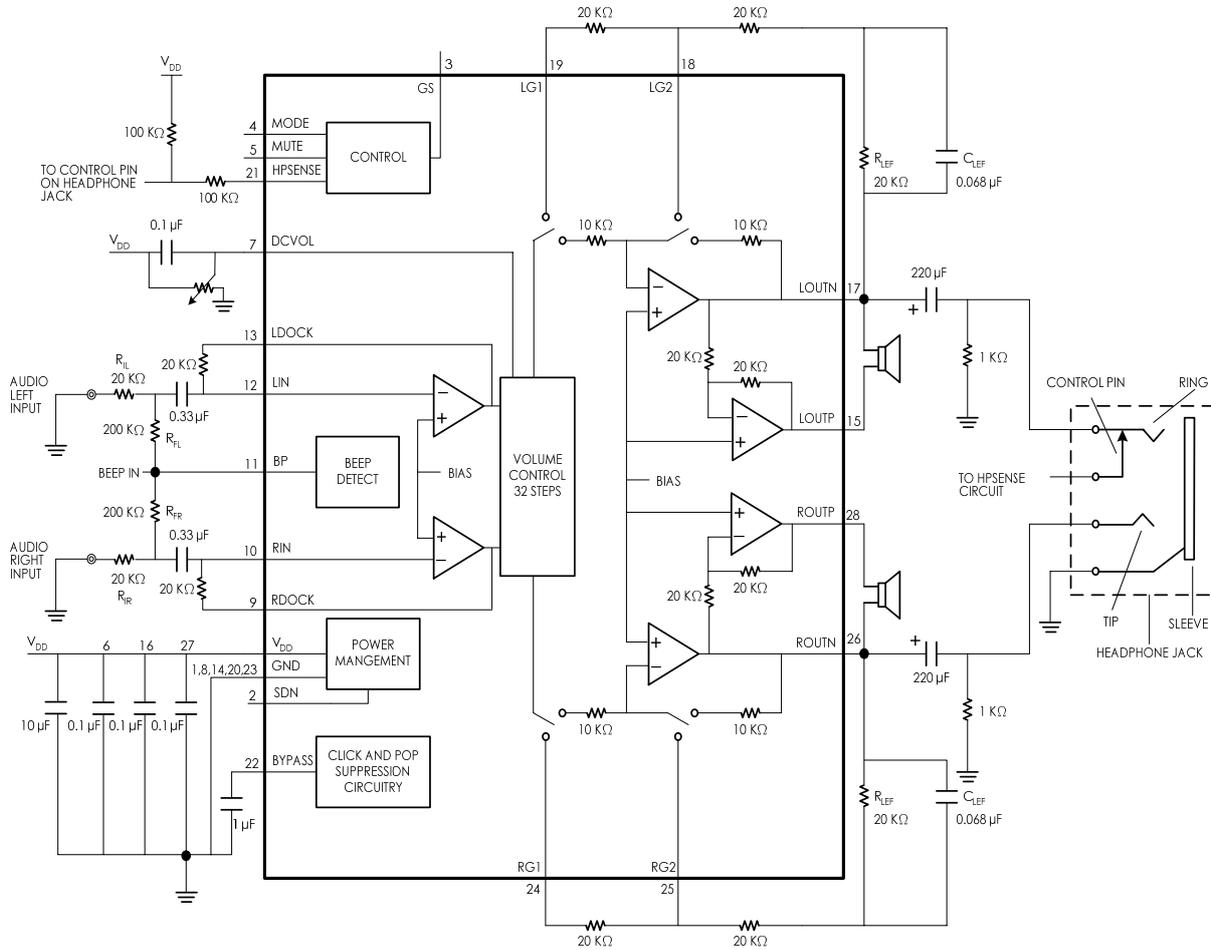

Figure 1. Typical Audio Power Amplifier Application Circuit
Note 4: All voltages are measured with respect to the ground pins, unless otherwise specified. All specifications are tested using the typical application as shown in *Figure 1*.
Amplifying the lowest audio frequencies requires high value input coupling capacitor (0.33µF in *Figure 1*). A high value capacitor can be expensive and may compromise space efficiency in portable designs. In many cases, however, the speakers used in portable systems, whether internal or external, have little ability to reproduce signals below 150 Hz. Applications using speakers with this limited frequency response reap little improvement by using large input capacitor.
As shown in *Figure 1*, the input resistor (20kΩ) and the input capacitor produce a -3dB high pass filter cutoff frequency that is found using Equation (1).
As an example when using a speaker with a low frequency limit of 150Hz, the input coupling capacitor, using Equation (1), is 0.063µF. The 0.33µF input coupling capacitor shown in *Figure 1* allows the EMA2202 to drive high efficiency, full range speaker whose response extends below 30Hz.
Since the DOCK outputs precede the internal volume control, the signal amplitude will be equal to the input signal's magnitude and cannot be adjusted. However, the input amplifier's closed-loop gain can be adjusted using external resistors. These resistors are shown in Figure 1 as 20kΩ devices that set each input amplifier's gain to -1. Use Equation 2 to determine the input and feedback resistor values for a desired gain.